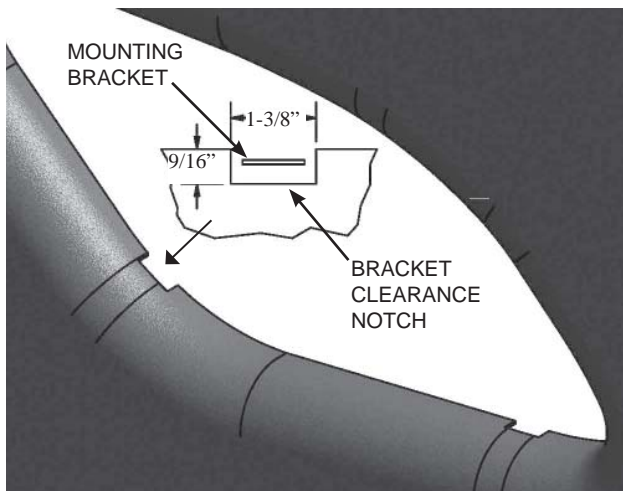

Figure 13
- A. Holding trim panels in position, mark window frame bracket locations. Cut notch for 3/16" clearance on sides and 9/16" deep using razor knife or equivalent. (Fig 13)